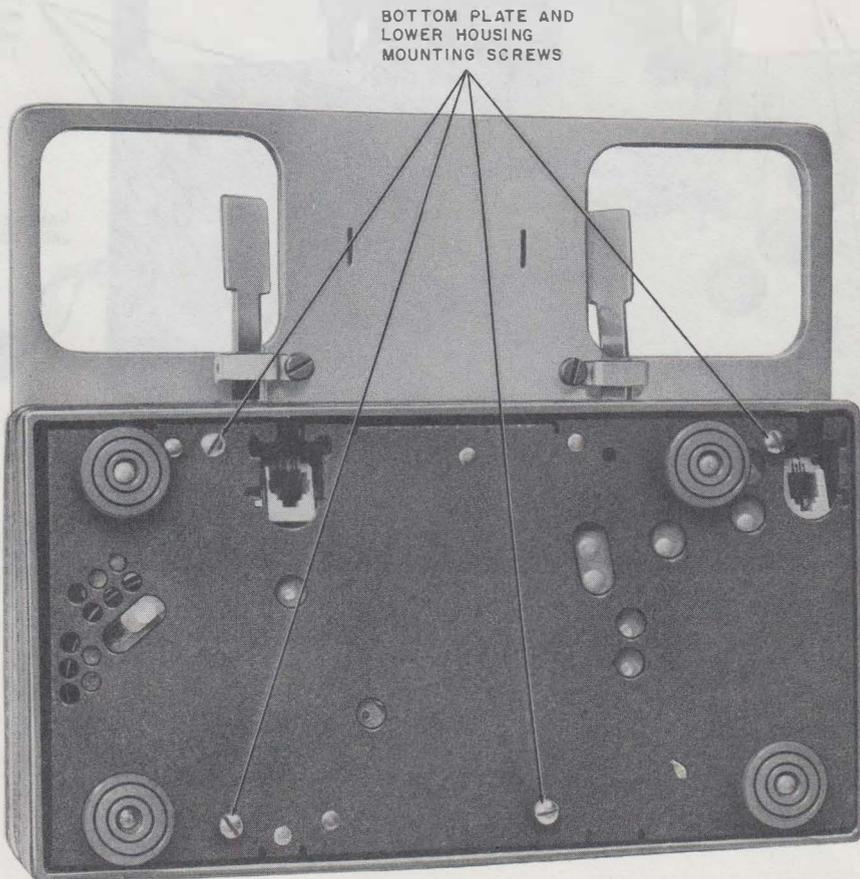

Fig. 4—930A-(MD) or 2930A-Type (MD) Telephone Set, Bottom View
- (1) Remove handset and mounting cords from the bottom of the telephone set.
- (2) Remove the four bottom plate and lower housing mounting screws (Fig. 4).
- (3) Remove bottom plate and lower housing.
- (9) Reassemble lower housing and bottom plate to handset mounting plate (Fig. 4).